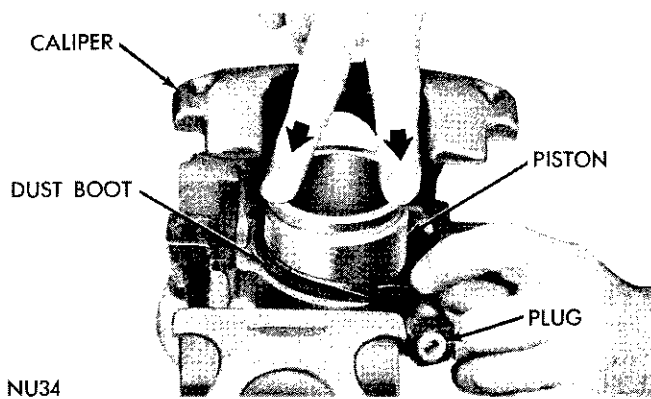

Fig. 17—Installing Piston (through Boot)
(4) Plug high pressure inlet to caliper and bleeder screw hole, then coat piston with a generous amount of lubricant (as specified above). With fingers spreading boot, work piston into boot and press down on piston. (The entrapped air below piston will force boot around piston and into its groove as piston is depressed.) (Fig. 17). Remove plug, then carefully push piston down the bore until bottomed. Caution: **Force must be applied uniformly to avoid cocking.**